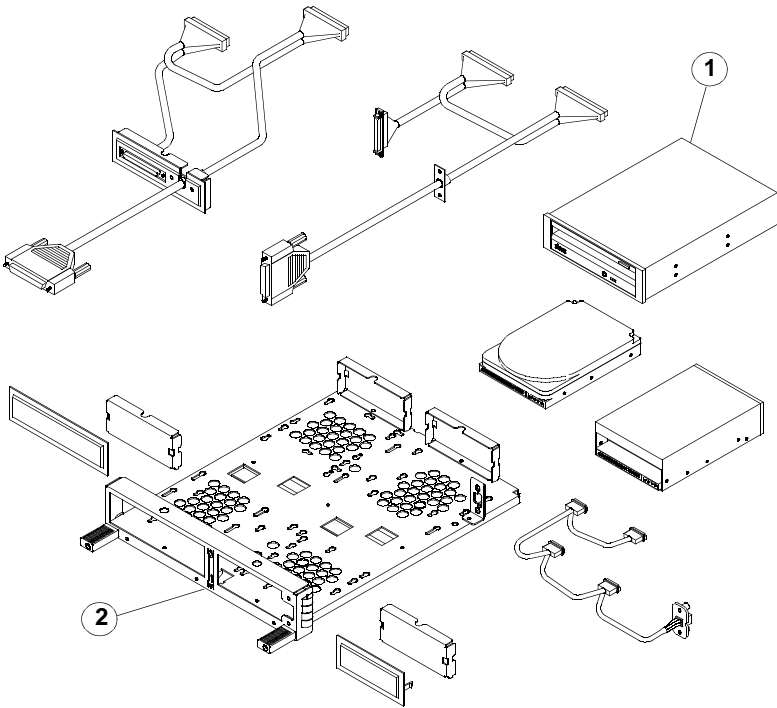

Figure 5-2 FWD Mass Storage Module Parts
Figure 5-1 and Figure 5-2 show exploded views of the Single-Ended (SE) and Fast-Wide-Differential (FWD) mass storage modules.